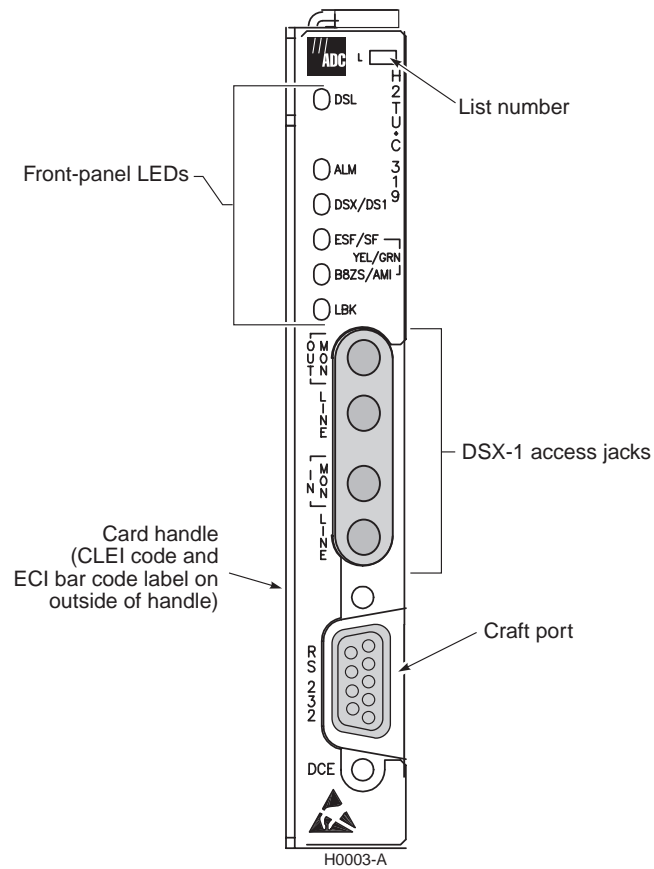

Figure 1. H2TU-C Front Panel
Figure 1 shows the H2TU-C front panel. Table 2 on page 5 describes the front-panel components. For pinout diagrams of the H2TU-C card-edge connector and craft port, refer to “Appendix A - Specifications” on page 53.
- 1 Connect a standard 9-pin terminal cable to the RS-232 craft port on the H2TU-C front panel (Figure 1 on page 3).